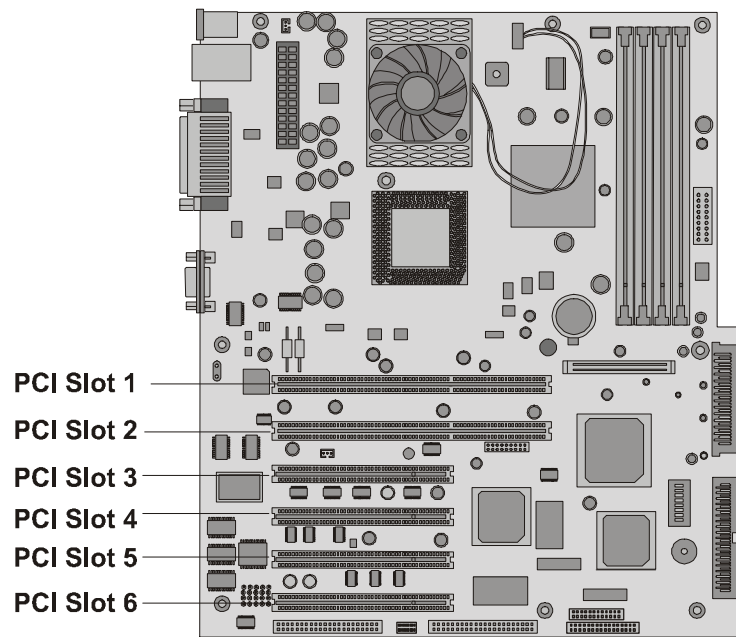

Figure 3-21. Accessory Slots
7. Identify the accessory slot number to be used. See Figure 3-21.